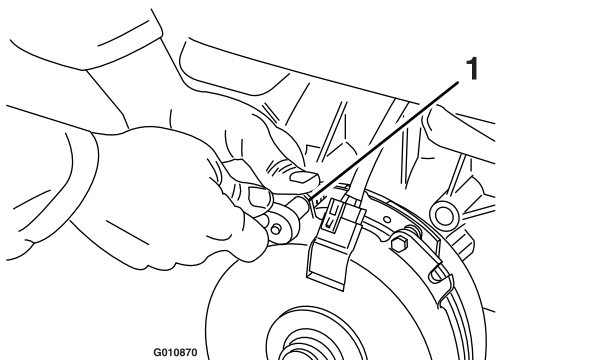

Figure 67
- A. Loosen both brake-mounting bolts 1/2 to 1 full turn as shown in Figure 67.